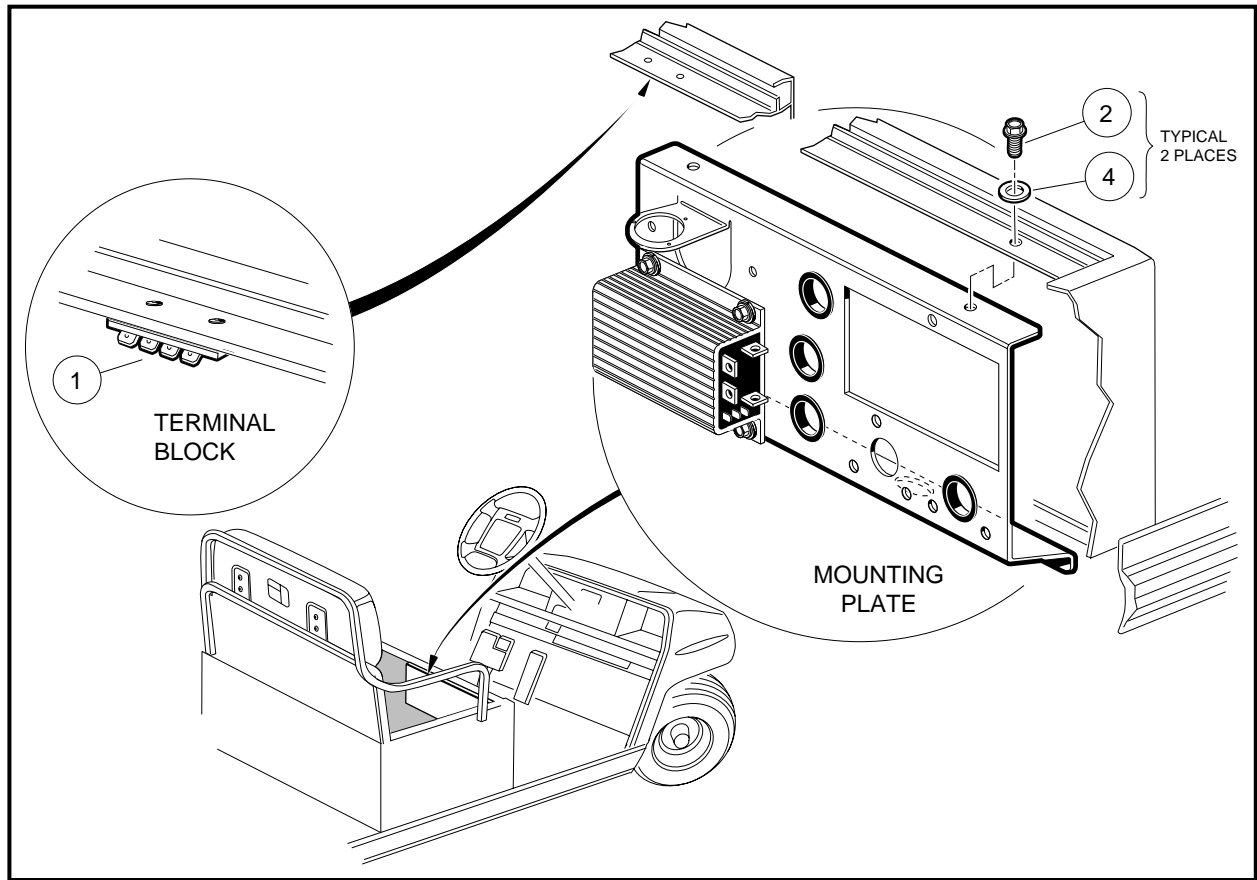

Figure 4-4 Center Body Electrical Mounting Plate
7. Remove the two bolts (2) and two flat washers (4) that secure the electrical mounting plate to the center body assembly (**Figure 4-4, Page 4-5**).
8. Remove all wires from the terminal block (1) located on the driver's side of the center body assembly (**Figure 4-4, Page 4-5**).